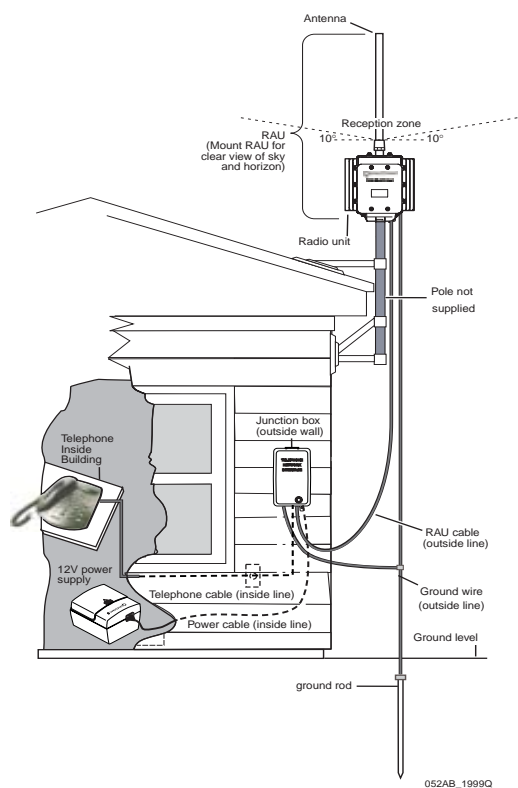

Figure 1. General RAU pole mount installation
1. The RAU must have a clear view of the entire sky or it will not work. The antenna of the RAU should have an unobstructed view of the sky down to 10 degrees above the horizon (see Figure 1).
Figure 1 shows an example of how the radio antenna unit (RAU) and junction box might be installed using a pole mounted on the outside of the building.
roof, and mount the RAU there. See Figure 1 on page 1 for how that could be done.